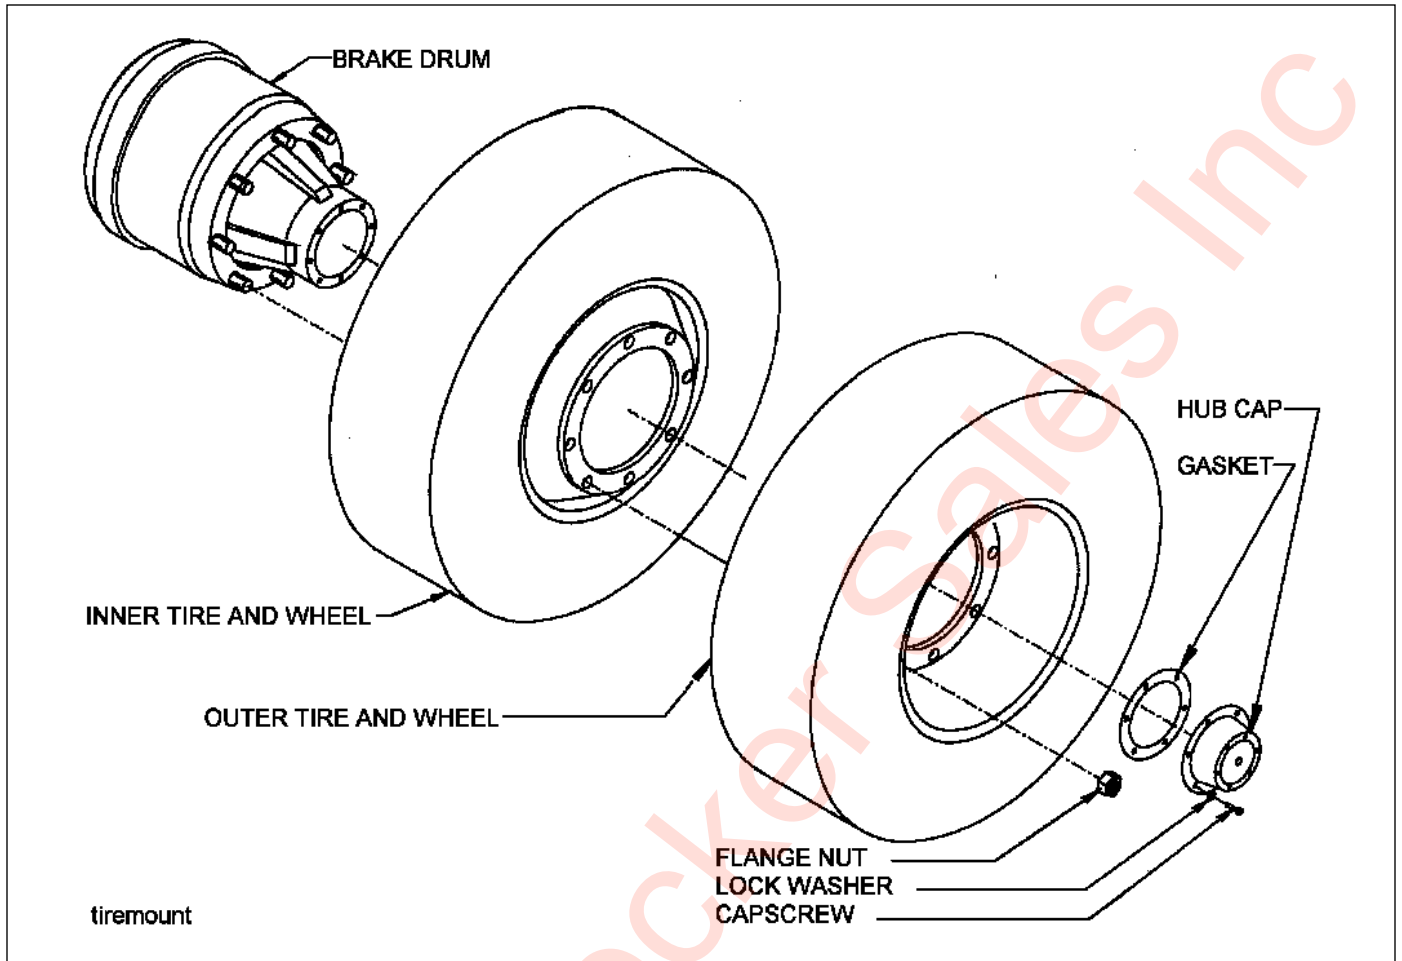

Figure 4-15: Mounting Tires and Wheels
6. For aluminum wheels, often a separator plate is used (**See Figure 4-15.**) The separator plate is approximately .040" thick. It is placed between the drum and the wheel, or between two wheels in dual applications. The separator plate is recommended in severe applications where corrosion and/or wear have been identified. Aluminum wheels benefit from use of the separator plate. Care must be exercised in centering the separator plate prior to torquing, and stud length must be checked as each plate is approximately .040" thick.
1. Make sure that all mounting surfaces are clean and free of rust, dirt or paint. A wire brush may be used to clean these surfaces (**See Figure 4-15.**)